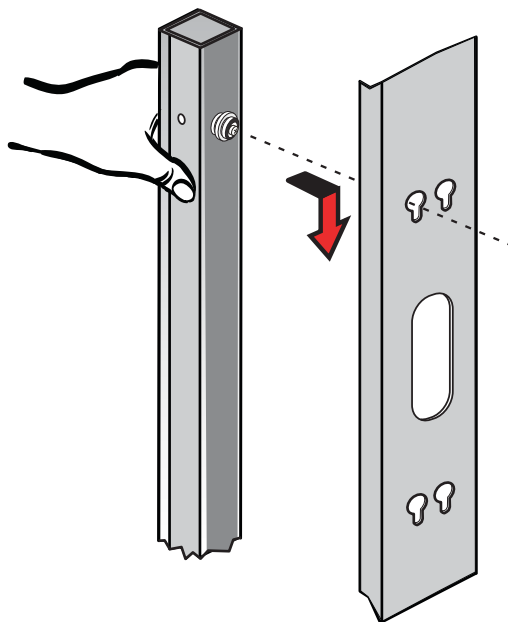

Figure 20. Securing the ePDU
5. Push down to secure the ePDU in position (see Figure 20).